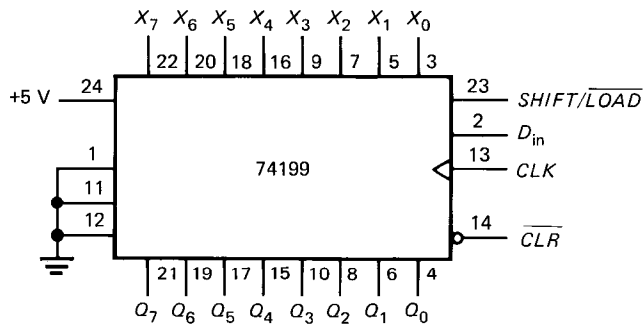

Fig. 8-30
- 8-4. A 74199 is an 8-bit shift-left register with a single control signal, as shown in Fig. 8-30. When $\overline{SHIFT/LOAD}$ is low, the circuit loads the X word on the next positive clock edge. When $\overline{SHIFT/LOAD}$ is high, the register shifts the bits to the left.
- 8-5. The clock frequency is 2 MHz. How long will it take to serially load the shift register of Fig. 8-30?
- 8-6. In Fig. 8-30, $Q = 0001\ 0110$. If $\overline{SHIFT/LOAD}$ is high and D_{in} is high, what does Q equal after three clock pulses?